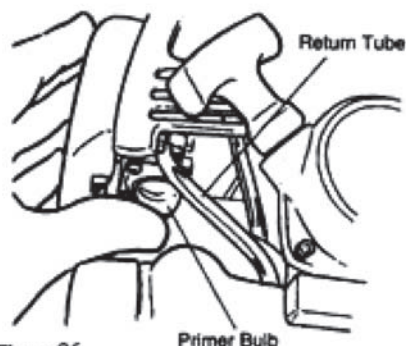

Figure 26
3. Prime the engine by depressing the carburetor primer bulb four or five times. See Figure 26. You should be able to see fuel inside the bulb.